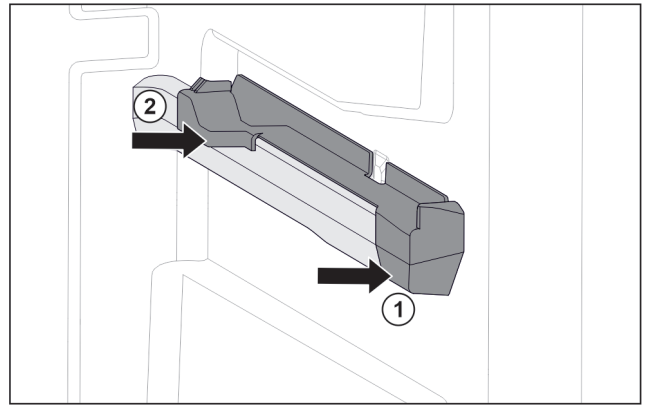

Fig. 154 Attachment on the right moulded rib
- ▶ Position attachment on moulded rib at the front. Fig. 154 (1)
- ▶ Press on attachment at the back. Fig. 154 (2)